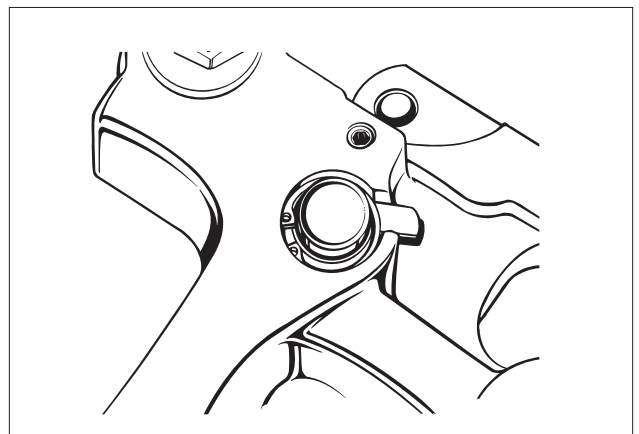

FIG. 31
7. Reassemble the parts, reversing the removal procedure. Be sure retaining ring ears are positioned opposite the oil drain slot in the housing (see Fig. 31).